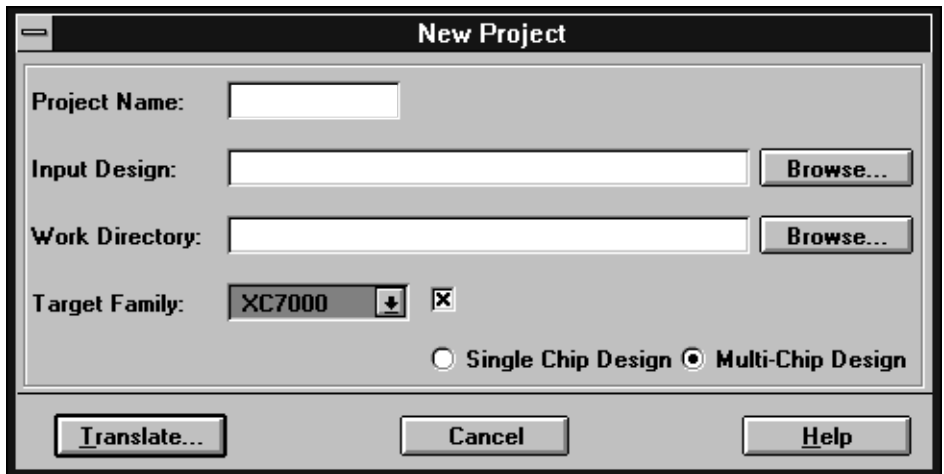

Figure 1-4 New Project Window
2. Select the New Project command from the File menu. The New Project window appears as shown in Figure 1-4.